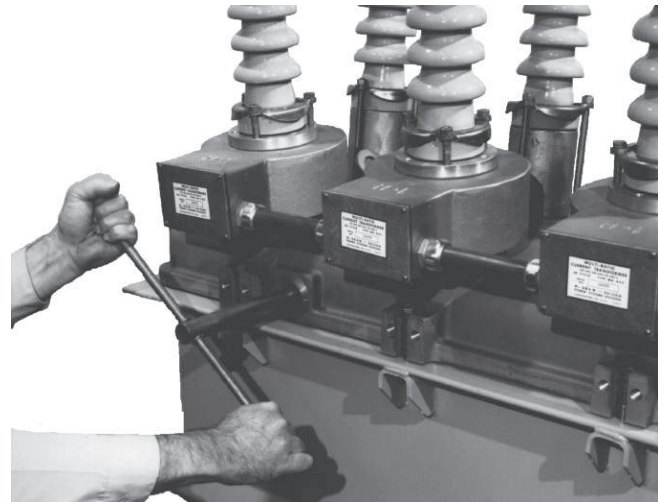

Figure 11. Using a KA90R manual reclosing tool to operate the recloser
3. Insert the KA90R T-handled closing tool (available as an accessory) into the port, engaging the pin on the closing shaft (Figure 11). Turn the closing tool one quarter turn clockwise to close the recloser.